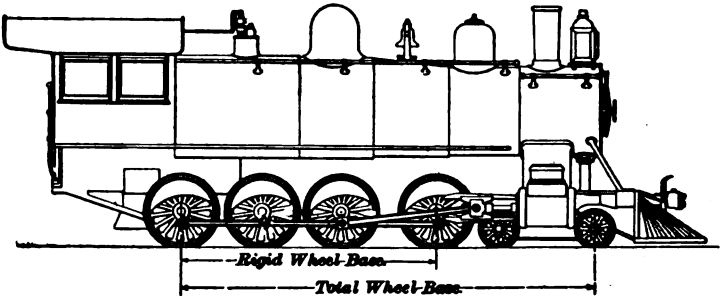

FIG. 11.
5. *Twelve-Wheeled*.—This engine, Fig. 11, has eight drivers and a four-wheeled truck.